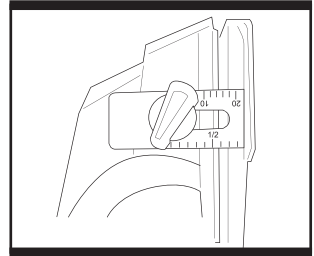

Fig. 6
5. USING THE DEPTH GUIDE (Fig. 6)